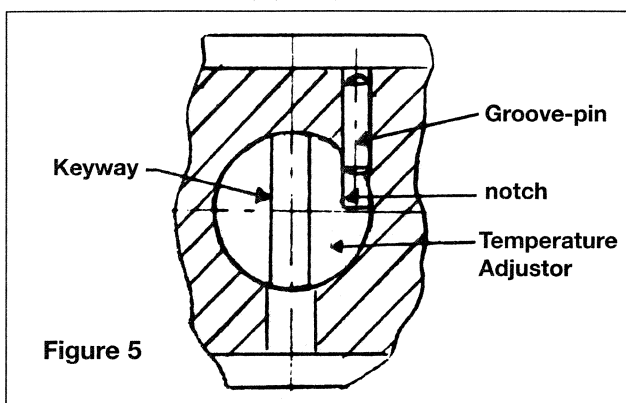

Figure 5
9. Install pressure relief valve (20) in boss on side of body. Make sure correct valve body (42) is used. Body is identified by a drilled hole on side of flange on center line above hot water inlet for E-300L body. E-600L has no identification hole drilled in flange.
10. Assemble valve body (42) to yoke (36) with cold water inlet facing in the same direction as window in yoke. Secure with cap screws (39).
11. Install O-ring (11) in groove of temperature adjustor (14), and, temporarily for alignment purposes, insert adjustor through yoke window. Keyway must be vertical and notch on outer diameter of adjustor, and line up with pin in temperature adjusting sleeve (33) (See Fig. 5) DO NOT INSTALL RETAINING RING (12).